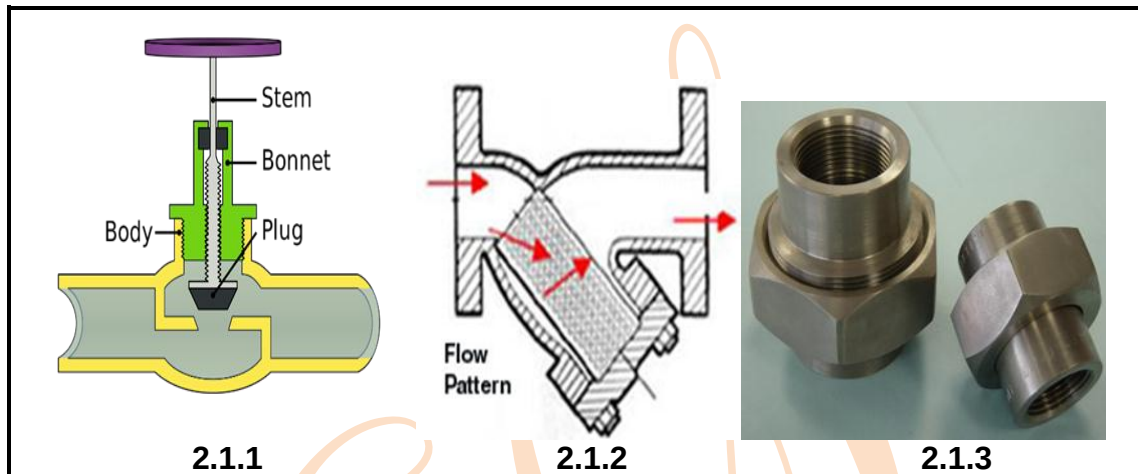

FIGURE 2
- 2.1 FIGURE 2 below shows three components X, Y and Z commonly found in a pipe system.